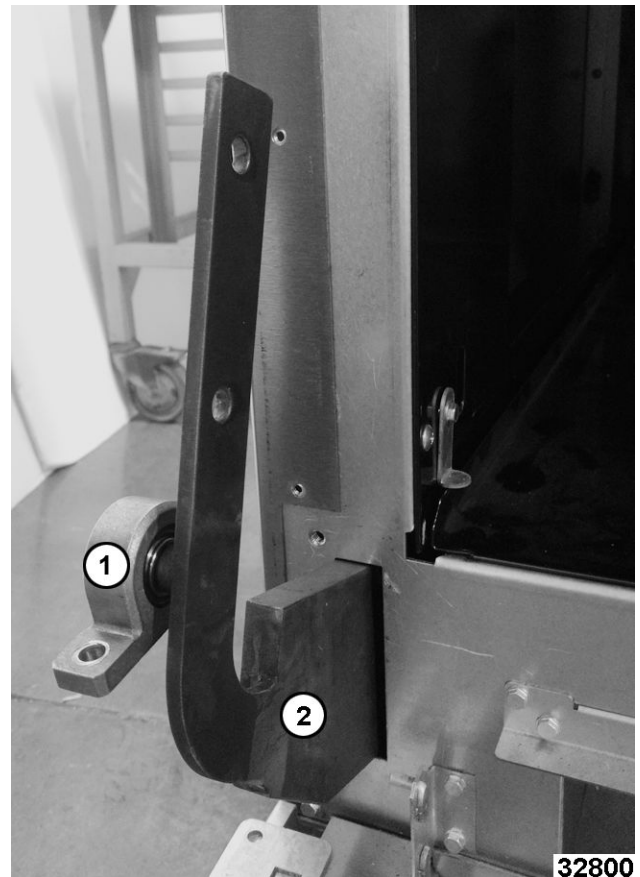

Fig. 72
4. Slide bearing (1, Fig. 72) off axle shaft.
5. Slide counterweight (2,)Fig. 72 through opening.